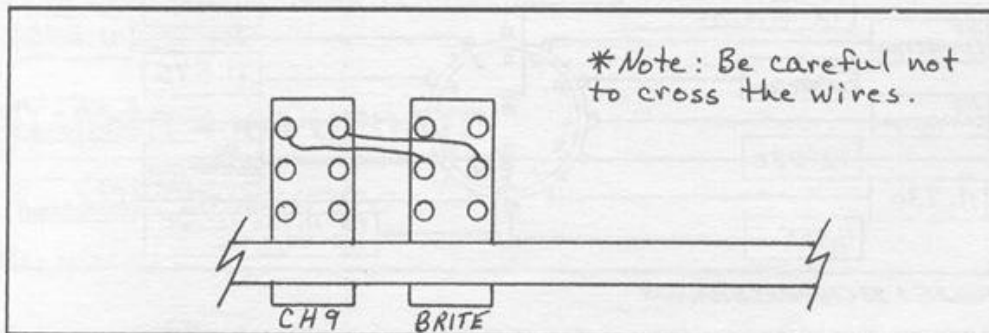

FIGURE 3. AR44/25GTL
9. REFER TO FIGURE 3. SOLDER TWO "SHORT" WIRES FROM THE END POST OF THE CHANNEL 9 SWITCH TO THE TWO CENTER POSTS OF THE OF THE BRITE/DIM SWITCH.